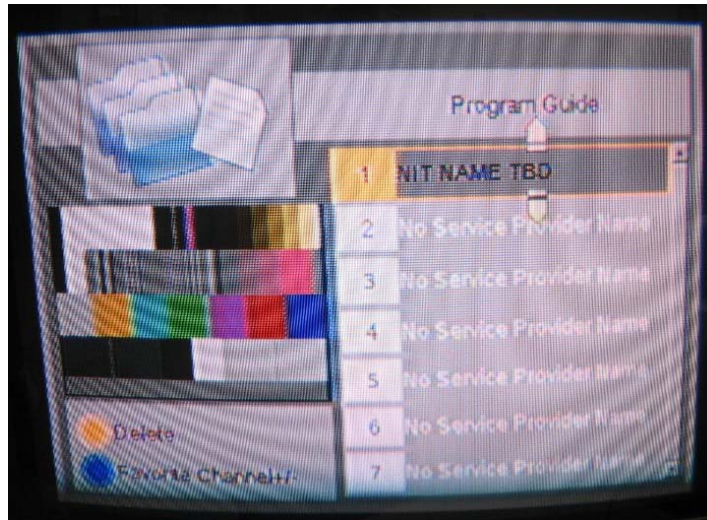

Figure 11
1. Press the “Menu” button on the remote control. The screen will be displayed as shown in Figure 11. Figure 11 shows only one file stored in the program guide (Unit Name TBD). As mentioned earlier, up to 32 different files can be stored. Use the up/down arrow keys to highlight the desired file, use the “OK” button to select the file. If one file is stored, the file #1 one will be highlighted.